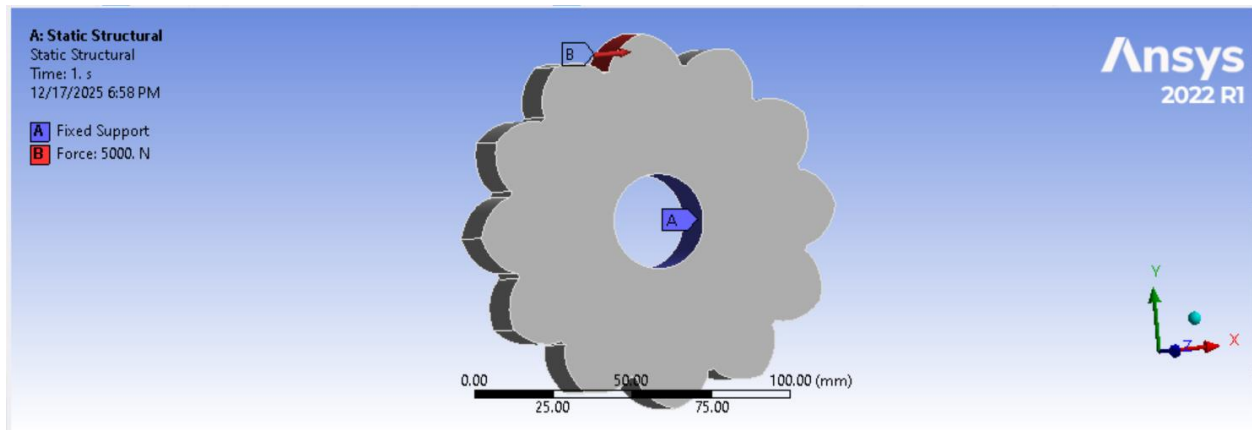

Figure 1a: Gear Model with Boundary Conditions
- **Geometry:** A parametric CAD model of the gear was created as shown in **Figure 1a**